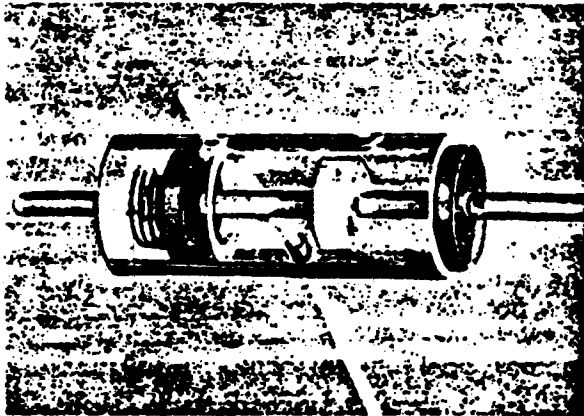

Fig. 22 — Differential spool valve operates from pressure in direction of larger area.
In Fig. 22, when the force generated by oil pressure through ports (3) and (4) exceeds the spring force, the valve will move in the direction of the larger land and open ports (1) and (2).